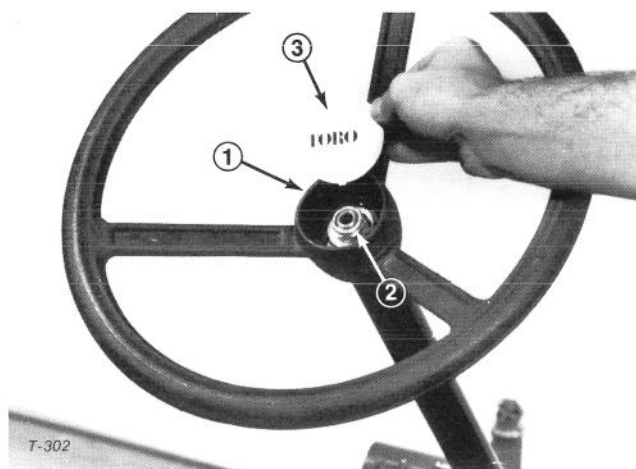

Figure 4
2. Secure steering wheel in place with jam nut (Fig. 4) and tighten it to 70 ft-lb (95 N·m).
3. Insert tab of steering cap into cutout in steering wheel hub (Fig. 4). Press cap into groove in hub.